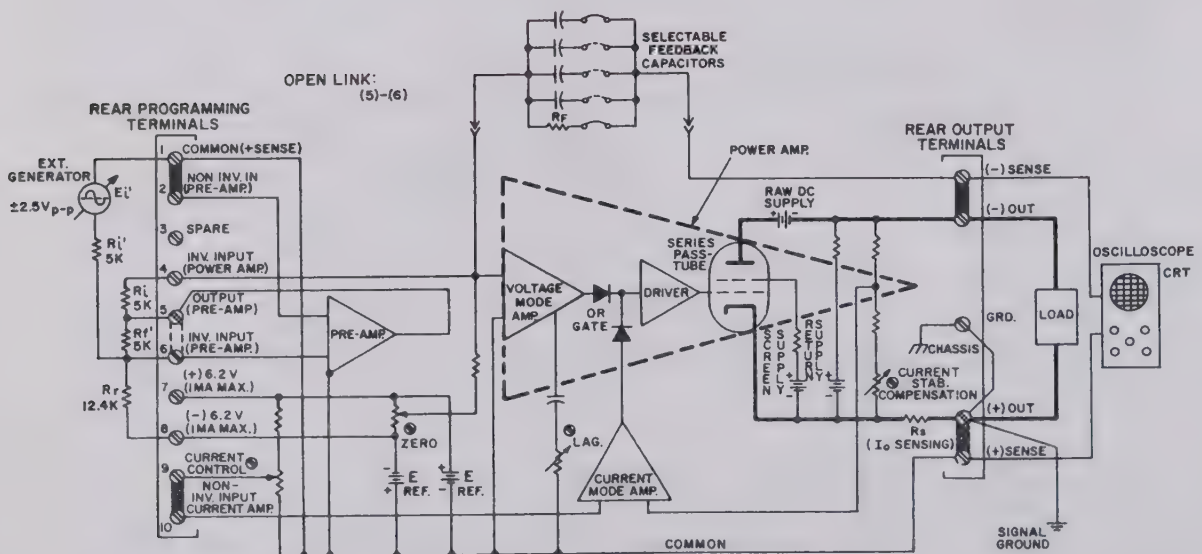

FIG. 3-12 CONNECTIONS FOR AMPLIFYING A BIPOLAR INPUT SIGNAL.
- 1) Connect the generator (E_i), the LOAD and an oscilloscope (CRT) to the OPS as shown in FIG. 3-12. FOR INTERCONNECTION DETAILS AND SAFETY PRECAUTIONS TURN TO THE "WARNING" PARAGRAPH ON PAGE 3-3.